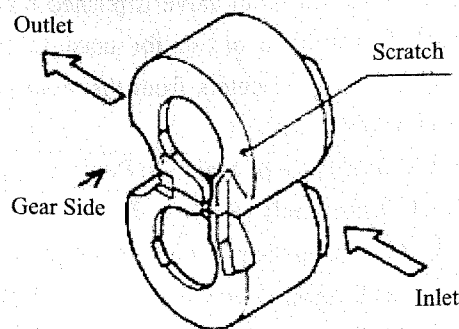
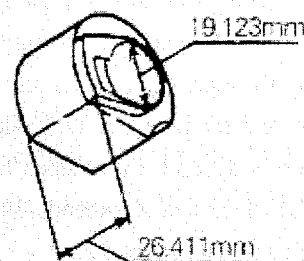

Fig 8-13
Fig 8-14
(2) Examination of Bearing (Fig 8-13 and Fig 8-14)